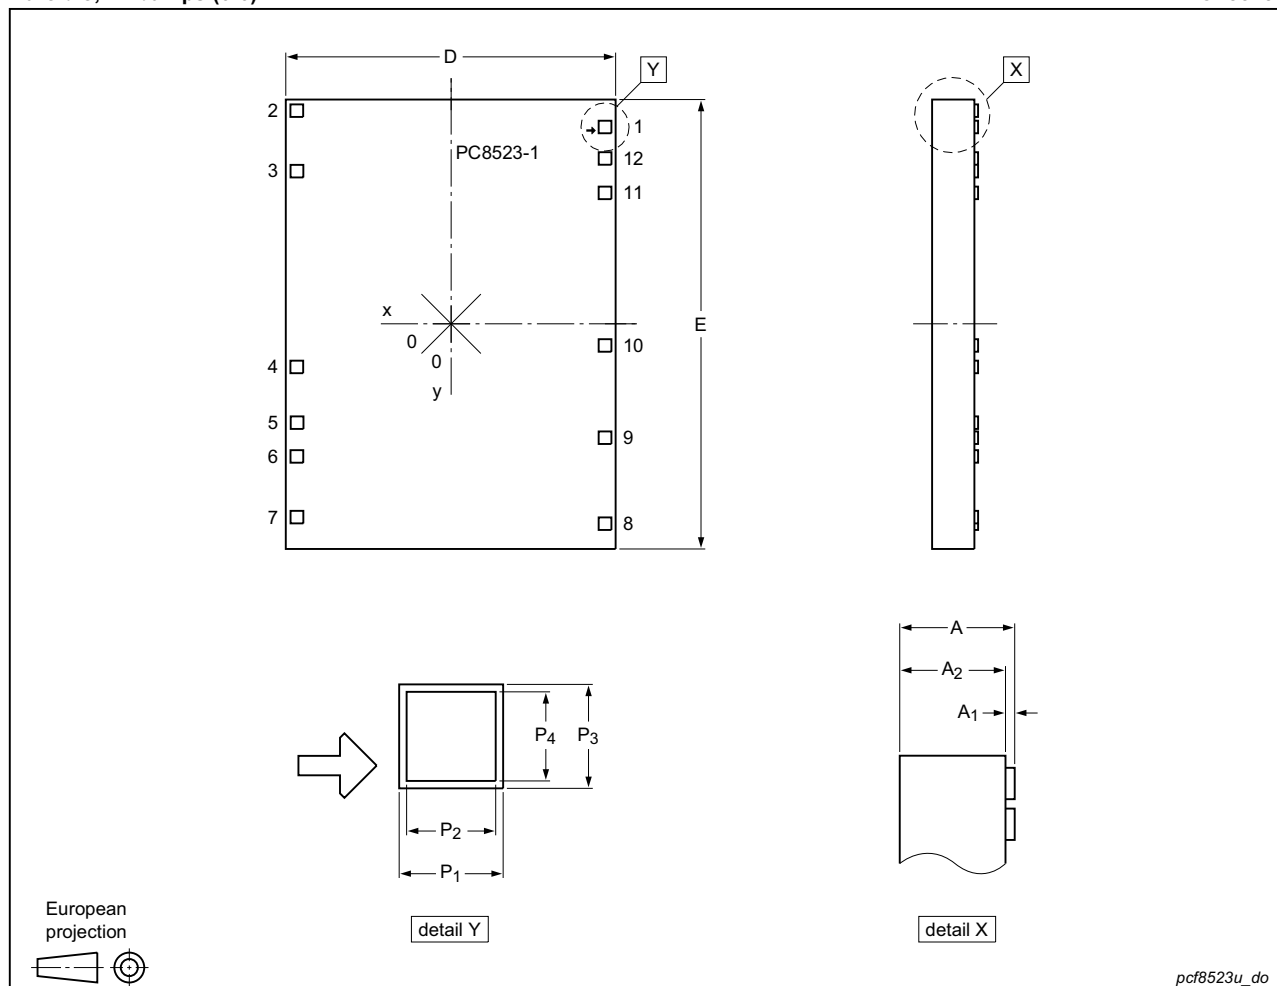

Fig 42. Bare die outline of PCF8523U
All x/y coordinates represent the position of the center of each bump with respect to the center (x/y = 0) of the chip; see Figure 42.
- [1] The x/y coordinates of the alignment mark location represent the position of the REF point (see Figure 43) with respect to the center (x/y = 0) of the chip; see Figure 42.